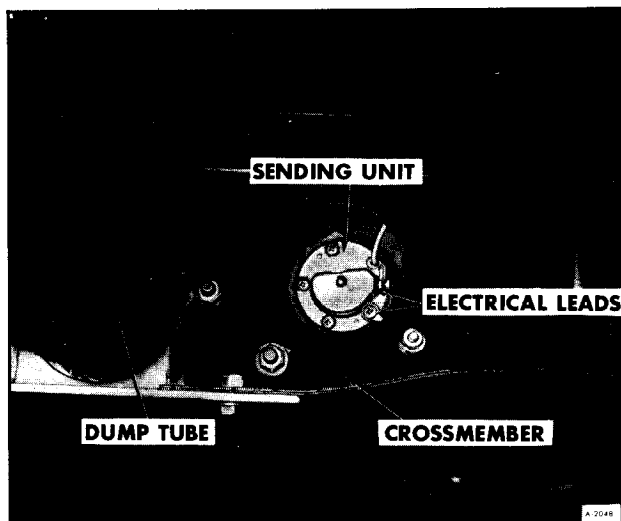

Figure 5—Holding Tank Sending Unit
1. Disconnect two electrical leads to unit as shown in Figure 5.
INSTALLATION (FIGURE 5)